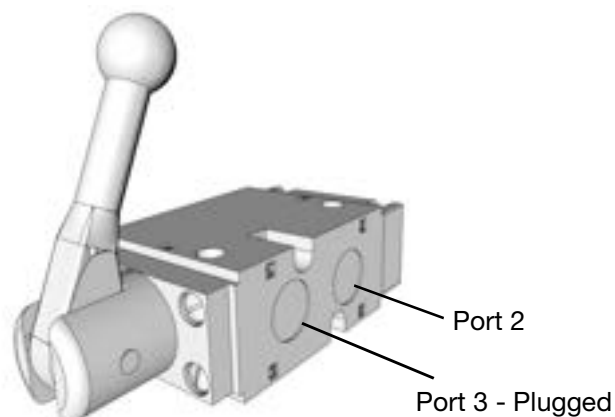

FIG. 14
- a. Connect port 1 to the pneumatic power supply line (FIG. 14).
- b. Connect port 2 to the reel air motor (FIG. 14).